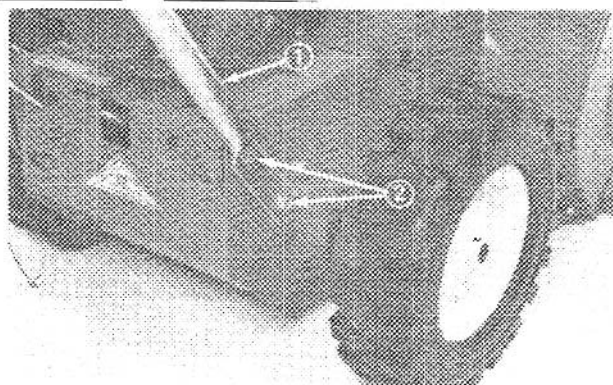

Figure 2
4. Position right handle on side of unit, align handle mount holes with holes in side plate and secure with two flange screws (Fig. 2). Tighten handle screws on both sides of unit.